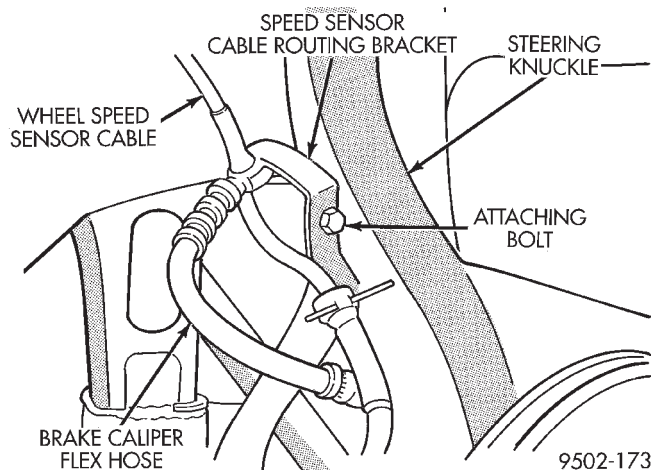

Fig. 17 Wheel Speed Sensor Cable Routing Bracket
(8) If equipped with antilock brakes, install the speed sensor cable on the steering knuckle and securely tighten bolt (Fig. 17).